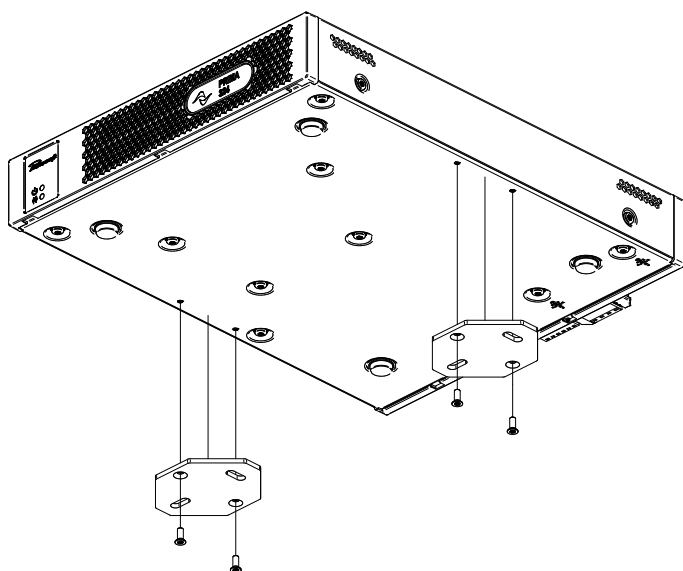

Figure 1 - Fixing the wall-mount brackets
3. Fasten the two wall-mount brackets to the bottom side of the PRIMA amplifier using the screws provided in the kit, aligning them with the dedicated threaded inserts, as illustrated on Figure 1. Make sure the brackets are oriented coherently with the desired mounting position.